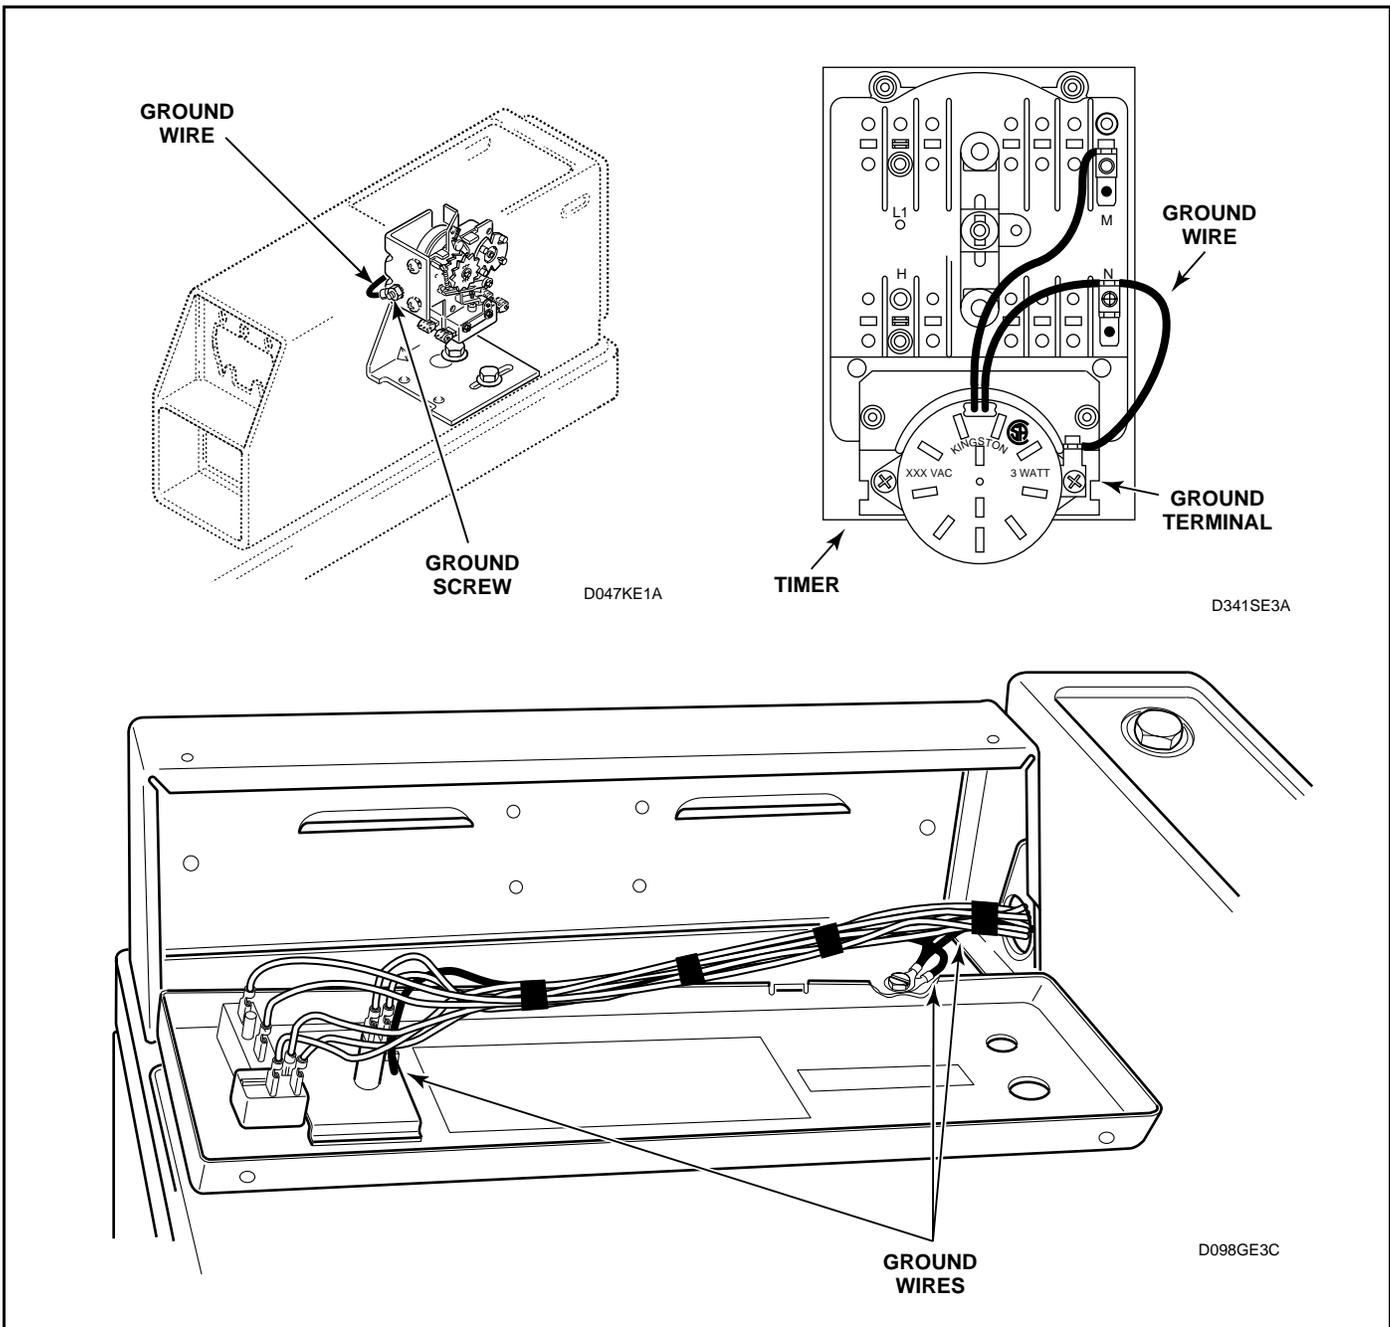

Figure 4
16. METERED AND NONMETERED MODELS – GROUND WIRES FROM REAR BULKHEAD TO ACCUMULATOR BRACKET OR TIMER (Depending on model) AND FROM CABINET TOP TO CONTROL PANEL (Figure 4).
- e. Remove ground wire from ground terminal on timer. See *Figure 4*.